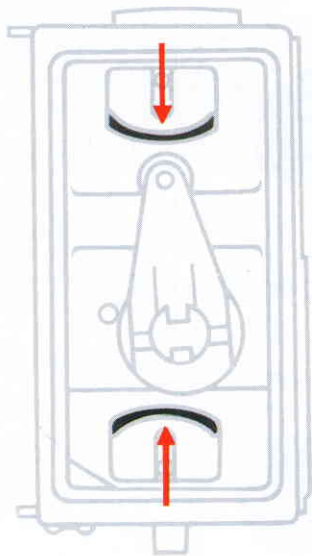

Fig. 11
*First, put the function selector switch 21 to 3, the magazine does not have to be removed from the camera and the darkslide may remain in its storage compartment. Press the two release catches 34 towards each other and withdraw the insert (fig. 11).*